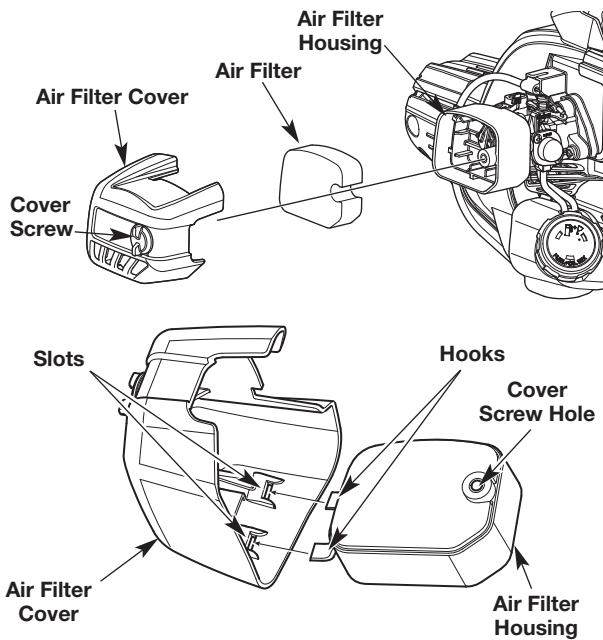

Fig. 34
1. Open the air filter cover by unscrewing the cover screw (Fig. 34).
2. Remove the air filter and the screen that sits behind it (Fig. 34).
6. Replace the air filter and the screen that sits behind it (Fig. 34).
7. Reinstall the air filter cover. Insert the hooks on the air filter housing into the slots on the air filter cover (Fig. 34).